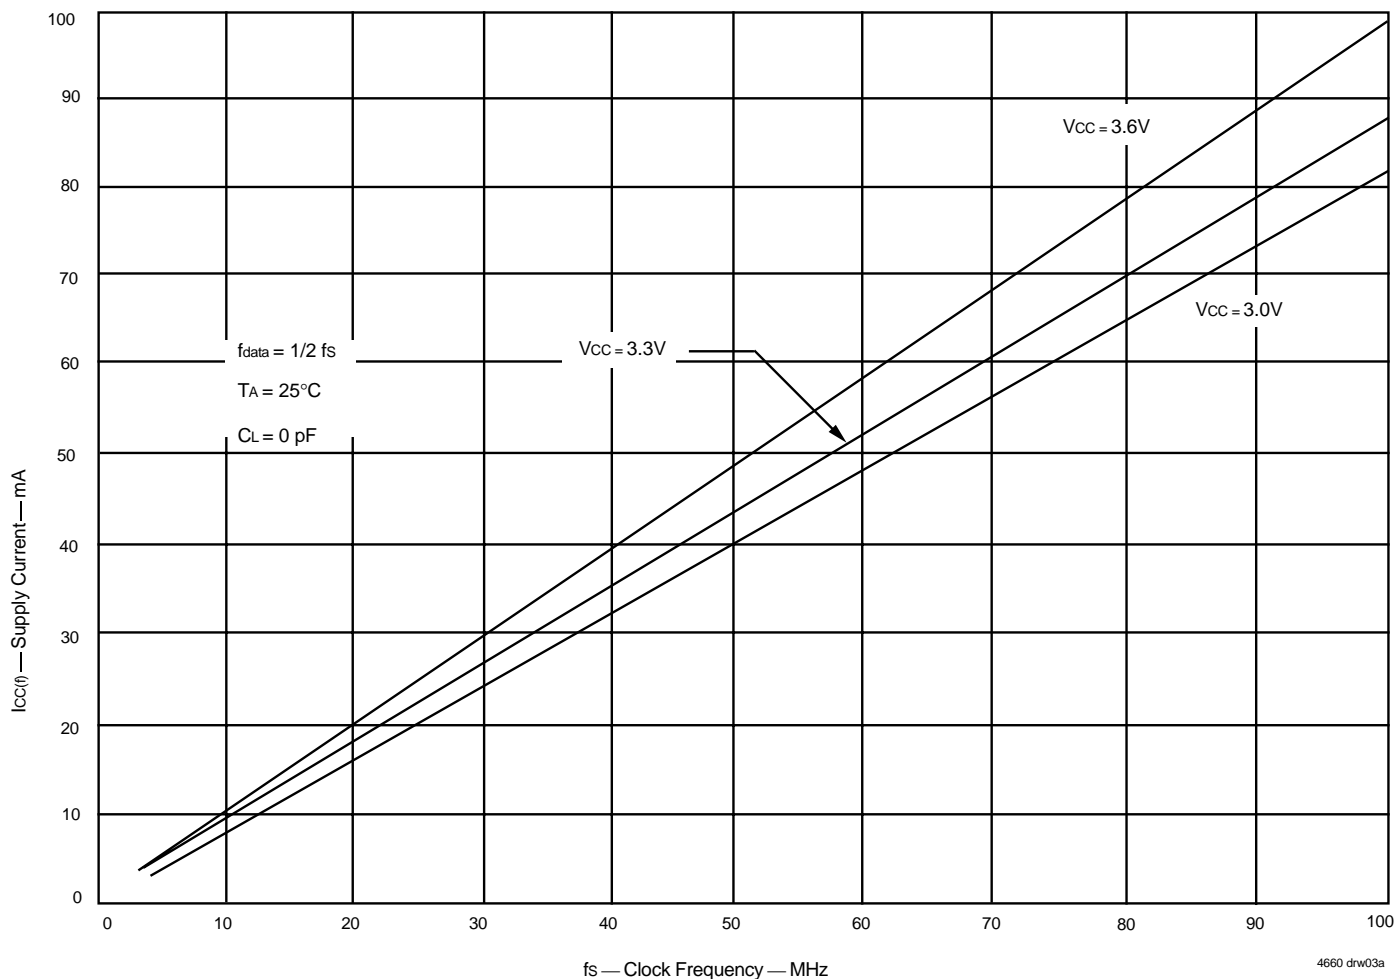

Figure 1. Typical Characteristics: Supply Current (I_{CC}) vs. Clock Frequency (f_s)
- For additional I_{CC} information, see Figure 1, *Typical Characteristics: Supply Current (I_{CC}) vs. Clock Frequency (f_s)*.
The $I_{CC(f)}$ current for the graph in Figure 1 was taken while simultaneously reading and writing a FIFO on the IDT72V3652/72V3662/72V3672 with CLKA and CLKB set to f_s . All data inputs and data outputs change state during each clock cycle to consume the highest supply current. Data outputs were disconnected to normalize the graph to a zero capacitance load. Once the capacitance load per data-output channel and the number of these device's inputs driven by TTL HIGH levels are known, the power dissipation can be calculated with the equation below.
With $I_{CC(f)}$ taken from Figure 1, the maximum power dissipation (P_T) of these FIFOs may be calculated by: